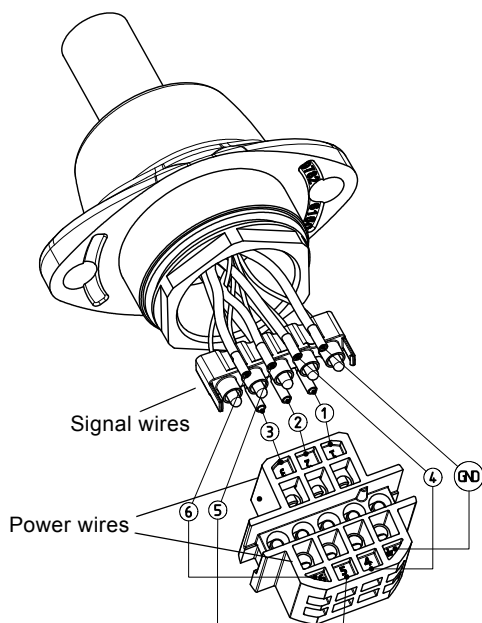
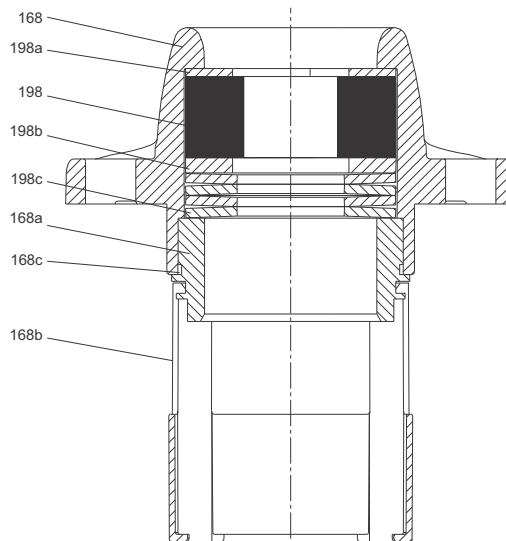

Fig. 12 Illustration of cable wires
Fig. 13 Sectional drawing, cable entry
1. Remove the screw (181a) in the cable entry (168).
2. Slightly lift the cable entry (168).
3. Using a screwdriver, disconnect both the signal wires and the power wires from the terminal block (176a). See fig. 12.
5. Place the service tool for cable entry (D) in a vice.
6. Mount the cable entry (168) in the service tool for cable entry (D).
7. Disconnect the signal wires from the moxex plug using the moxex tool (A). Remember to mark the position of the wires carefully. See fig. 12.
9. Push the cable (181) together with the rubber seal (198) out of the plug.
10. Remove the rubber seal (198), washers (198a and 198b) and disc spring (198c) from the cable. See fig. 13.
11. Pull and remove the cable (181) from the cable entry.